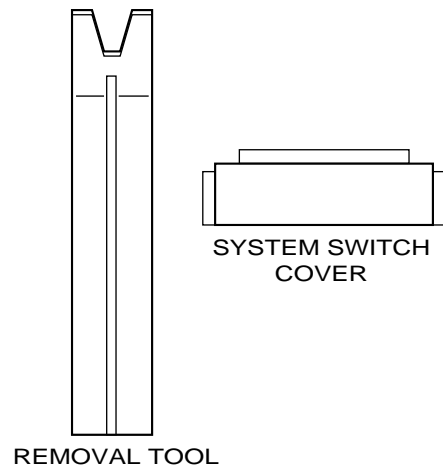

Fig. 1—Removal Tool and Switch Cover
1. Unpackage smart sensor and locate cover removal tool and system switch cover. (See Fig. 1.)